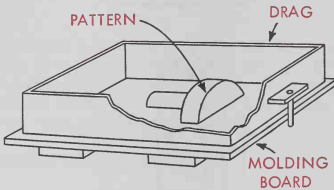

Fig. 9-4. Pattern and drag placed on molding board.
2. Place the drag half of the flask on a molding board with the pins pointing down, Fig. 9-4.